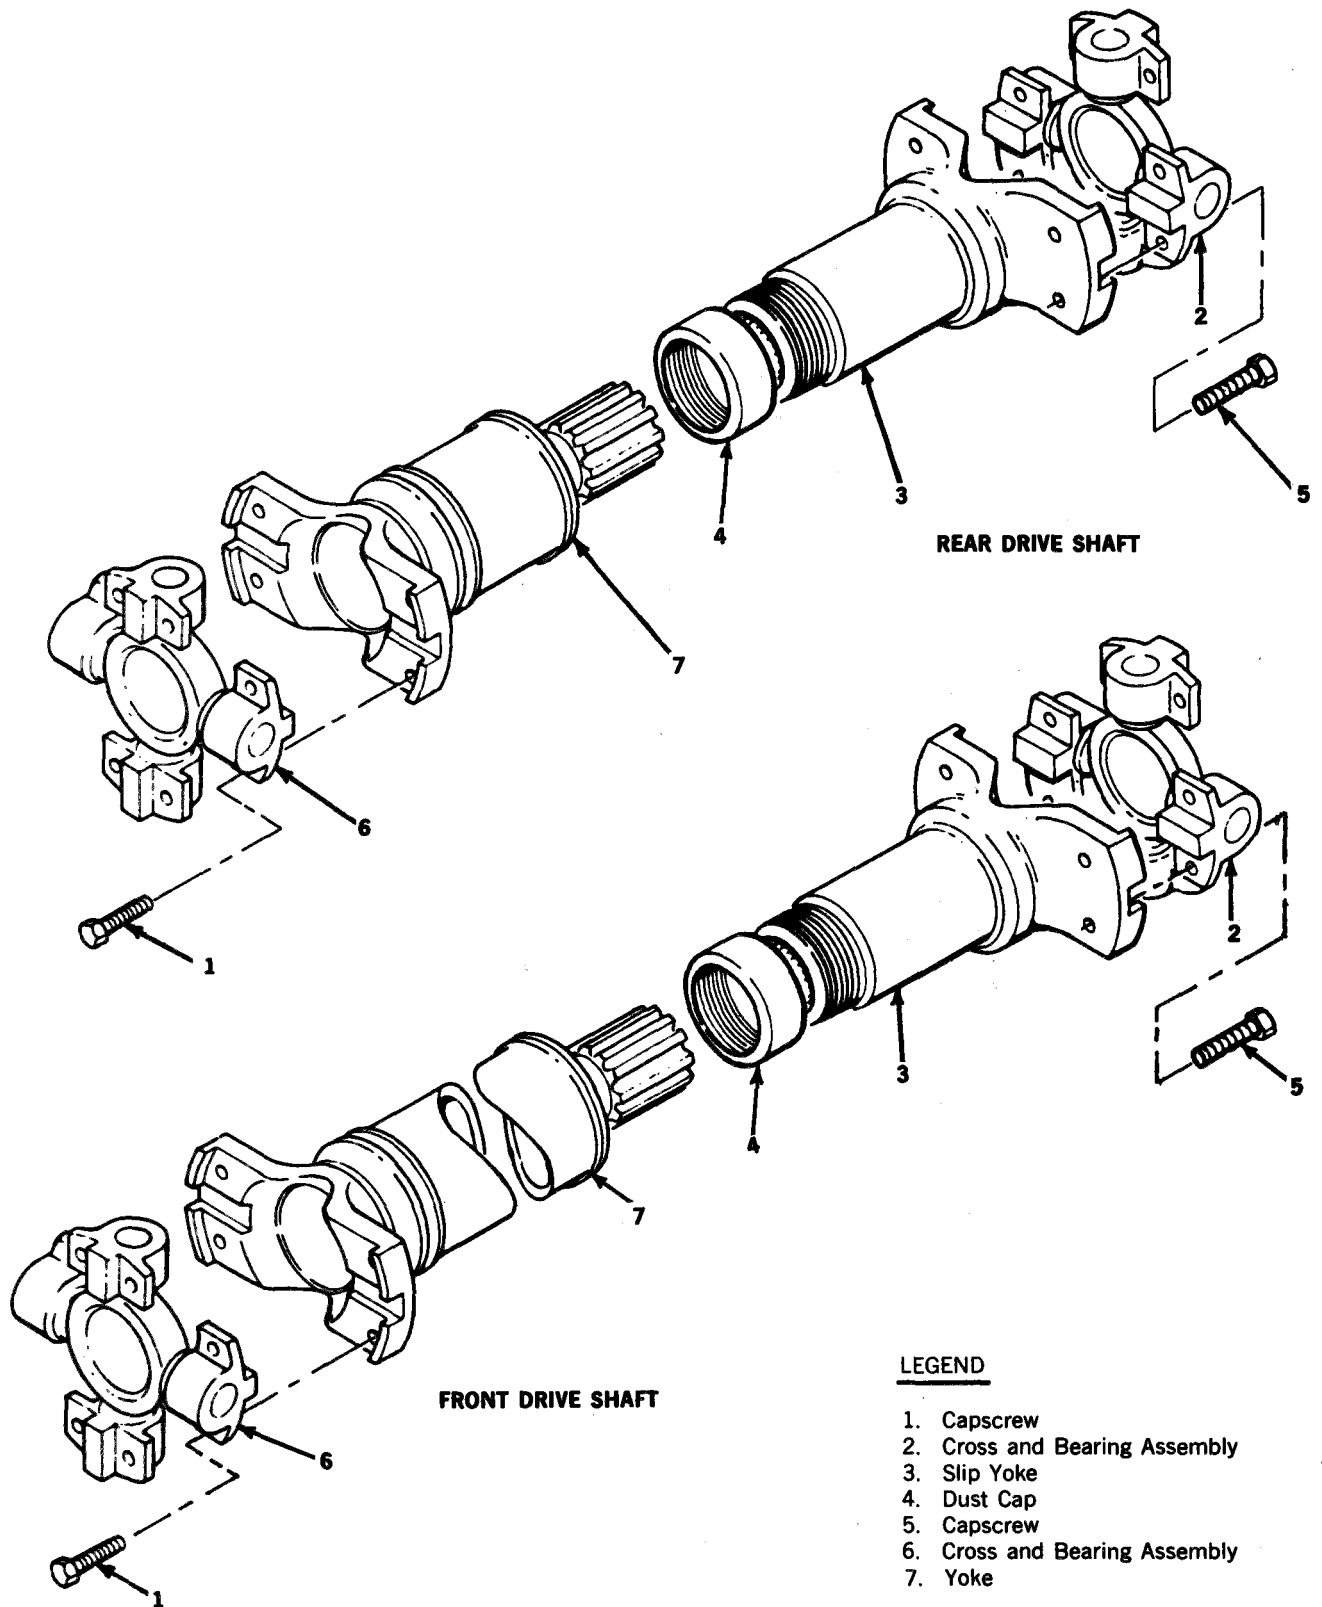

Figure 4-1. Front and Rear Drive Shafts
a. Remove front and rear drive shafts (figure 4-1) from transmission and front and rear axles.
b. Disassemble front and rear drive shafts by removing capscrews (1) and cross and bearing assembly (2) from slip yoke (3).
c. Remove capscrews (5) and cross and bearing assembly (6) from yoke (7).
d. Loosen dust cap (4) and separate slip yoke (3) and yoke (7).